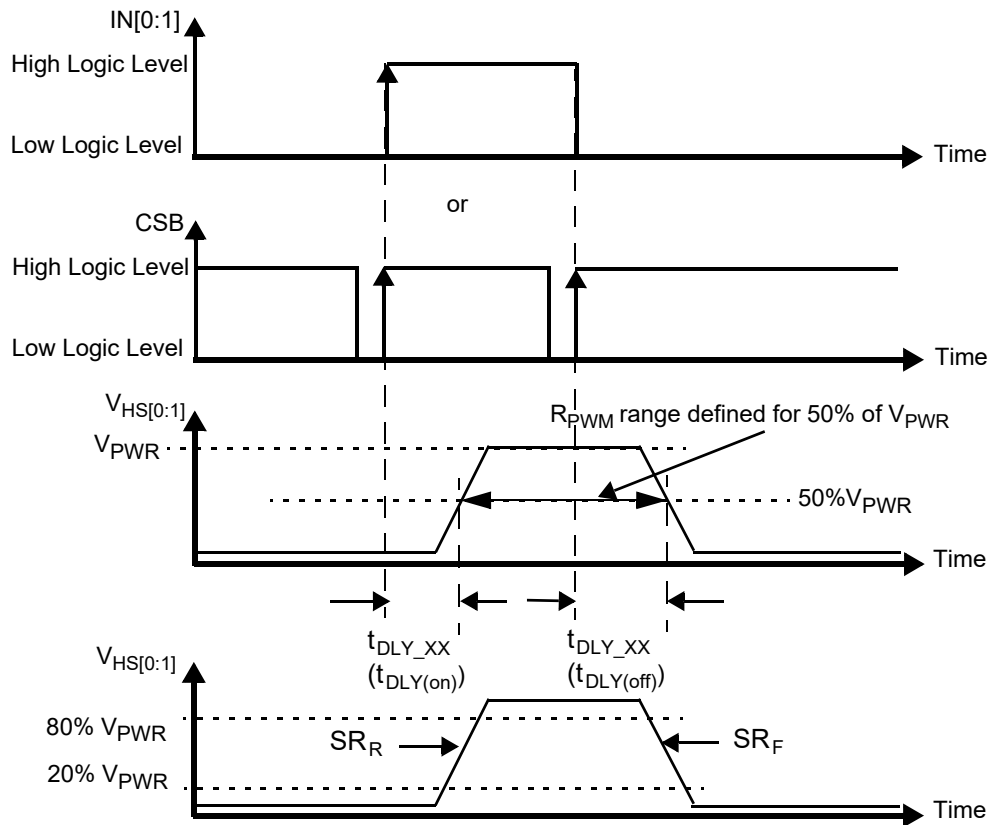
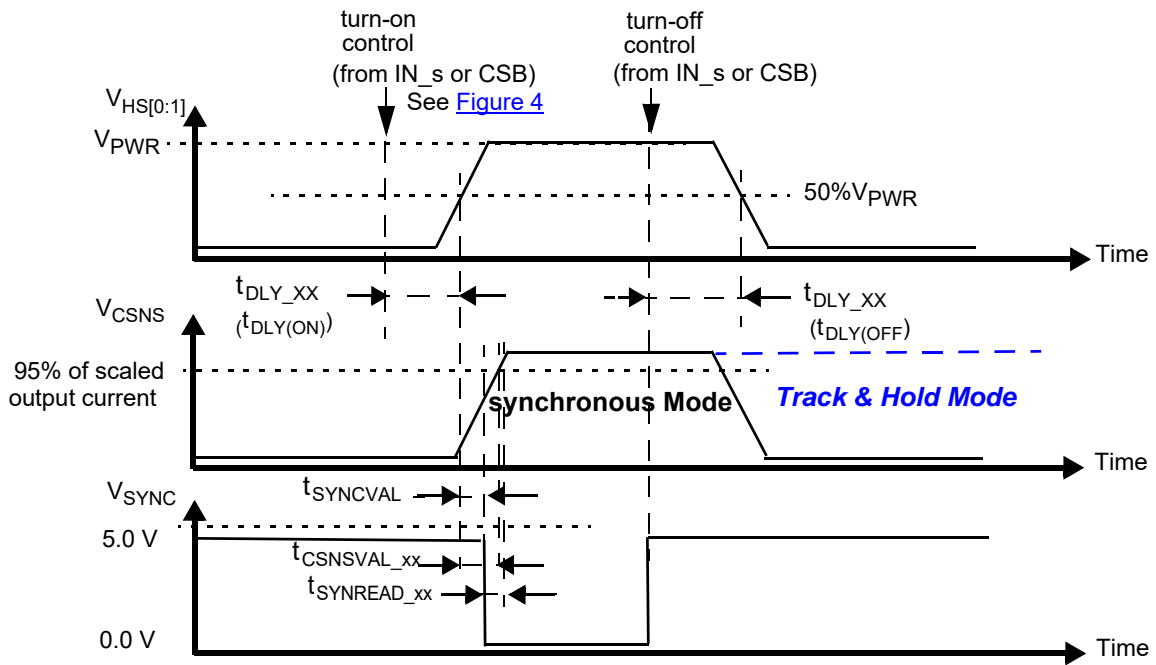

Figure 4. Output voltage slew rate and delay
Figure 9. Synchronous and Track & Hold current sensing modes: associated delay and settling times
27. Rising and Falling edge slew rates specified for a 20 % to 80 % voltage variation on a 10.0 Ω resistive load (see Figure 4).
29. Time required to switch off the channel after detection of overtemperature (OT), overcurrent (OC), SC or UV error (time measured between start of the negative edge on the FSB pin and the falling edge on the output voltage until $V(HS[0:1]) = 50\%$ of V_{PWR}).
30. Settling time ($= t_{CSNSVAL_XX}$), SYNC output signal delay ($= t_{SYNVAL_XX}$) and Read-out delay ($= t_{SYNREAD_XX}$) are defined for a stepped load current ($100\text{ mA} < I(LOAD) < IOCLX_A$ FOR $CSNS_RATIO_S = 1$, AND $300\text{ mA} < I(LOAD) < IOCLX_A_0$ FOR $CSNS_RATIO_S = 0$). (see Figure 9 and Output current monitoring \(CSNS\)).
To synchronize current sensing with an external process, the SYNC signal can be connected to a digital input of an external MCU. SYNC is asserted logic low when the current sense signal is accurate and ready to be read. The current sense signal on the CSNS pin has the specified accuracy $t_{SYNREAD_XX}$ seconds after the falling edge on the SYNC pin (Figure 9) and remains valid until a rising edge is generated. The rising edge that is generated by the SYNC pin at the turn-OFF instant (internal or external) may also be used to implement synchronization with the external MCU. Parameter t_{SYNVAL_XX} is defined as the time between the instant at the middle of the output-voltage rising edge ($HS[0:1] = 50\%$ of V_{PWR}), and the instant at which the voltage on the SYNC-pin drops below 0.4 V (V_{SOL}). The SYNC pins of different devices can be connected together to save micro-controller input channels. However, in this configuration, the CSNS function of only one device should be active at a time. Otherwise, the MCU does not determine the origin of the SYNC signal. The SYNC pin is open drain and requires an external pull-up resistor to V_{DD} .